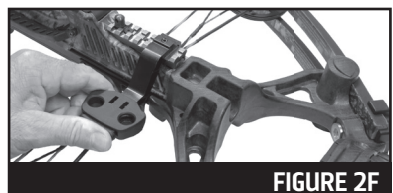

FIGURE 2F
3. Press the button located on the side of the quiver bracket and insert the quiver into the mounting holes as shown in Figure 2F.